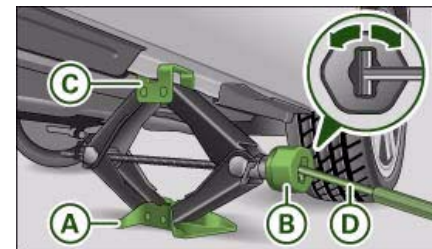

Fig. 274 Changing a wheel: Jack
- Place the jack ⇒ page 283 underneath the **jacking point** closest to the wheel being changed. Make sure the base plate (A) is flat on the ground.
- Wind up the jack by the knob (B) until the claw of the jack (C) completely surrounds the **seam** on your vehicle ⇒ fig. 274. ►
- Now fit the crank handle (D) onto the jack by inserting it in the opening on the knob ⇒ *page 290*, fig. 274. Turn the crank handle clockwise or anti-clockwise to secure it in place.